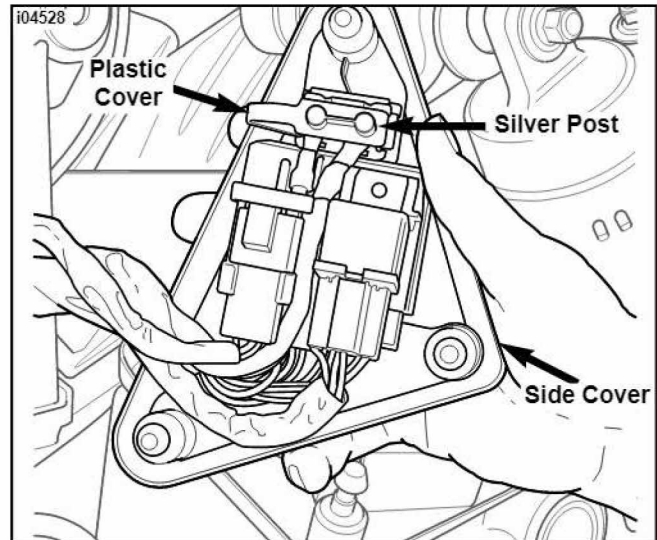

Figure 1. Remove Side Cover and Locate Silver Post
4. See Figure 1. Remove left side cover from frame. Remove plastic cover protecting electrical posts on circuit breaker. (inside cover). Locate silver post on electrical bracket and remove nut.